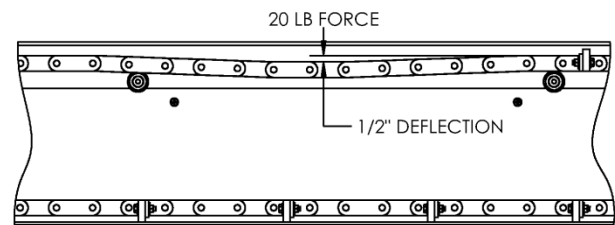

Fig. 4-5 – Tensioning conveyor chain
2. Check chain for tightness after 10, 30 and 100 hours of operation, and every 200 hours thereafter. Remove links as needed if chain cannot be adjusted to proper tightness. Tighten chain by adjusting take-ups on tail section. Take-ups should be adjusted in small increments to ensure tail sprocket is kept square. Chain tension is correct when deflection is approximately 1/2" at a point midway between rollers. See Fig. 4-5. **NOTE:** On conveyor with slide rail returns, it should be possible to lift chain slightly when sufficiently tightened. Making sure chain is properly tensioned will improve longevity of conveyor.